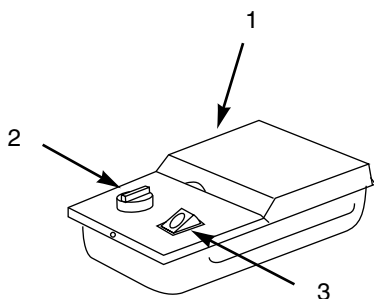

Figure 3
- 1) Open the side burner lid. Figure 3.